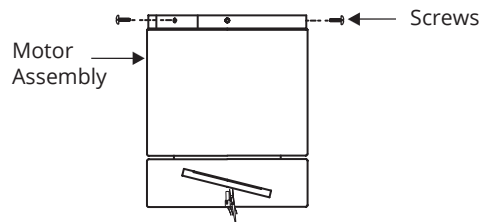

FIGURE 5
2. There are 4 screws on top of motor assembly, remove 2 that are on the opposite side of each other and save for section 9. Loosen the remaining 2. (Fig. 5)